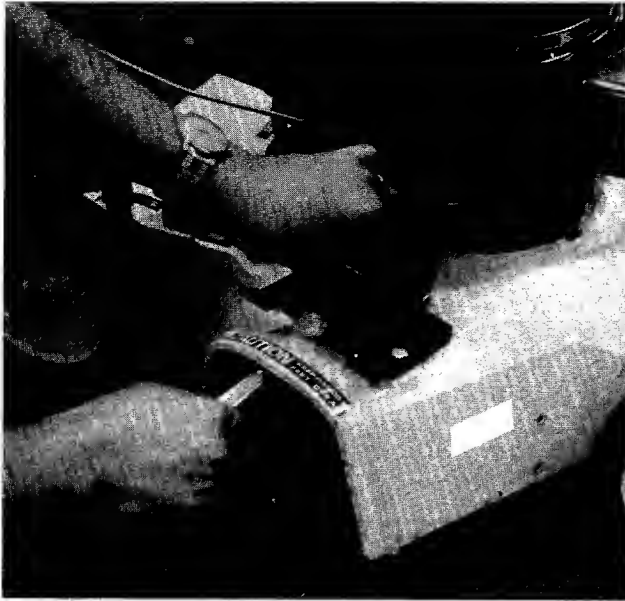

FIGURE 4.
5. Start hex nuts (E) and lock washers (D) on weld bolts on adapter plate.
6. Lift the chute up and hold in place with one hand. Tighten the hex nuts securely. See figure 4.